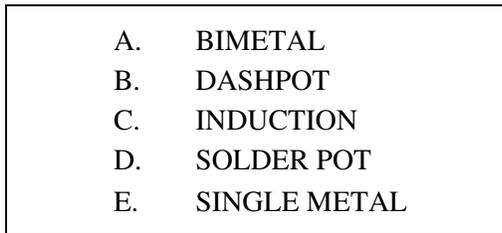

Figure 6C.
IN ANSWERING QUESTIONS 6-40 THROUGH 6-42, REFER TO THE TYPES OF OVERLOAD RELAYS SHOWN IN FIGURE 6C.
- 6-40. Of the relays shown in figure 6C, which one is NOT a type of thermal overload relay?